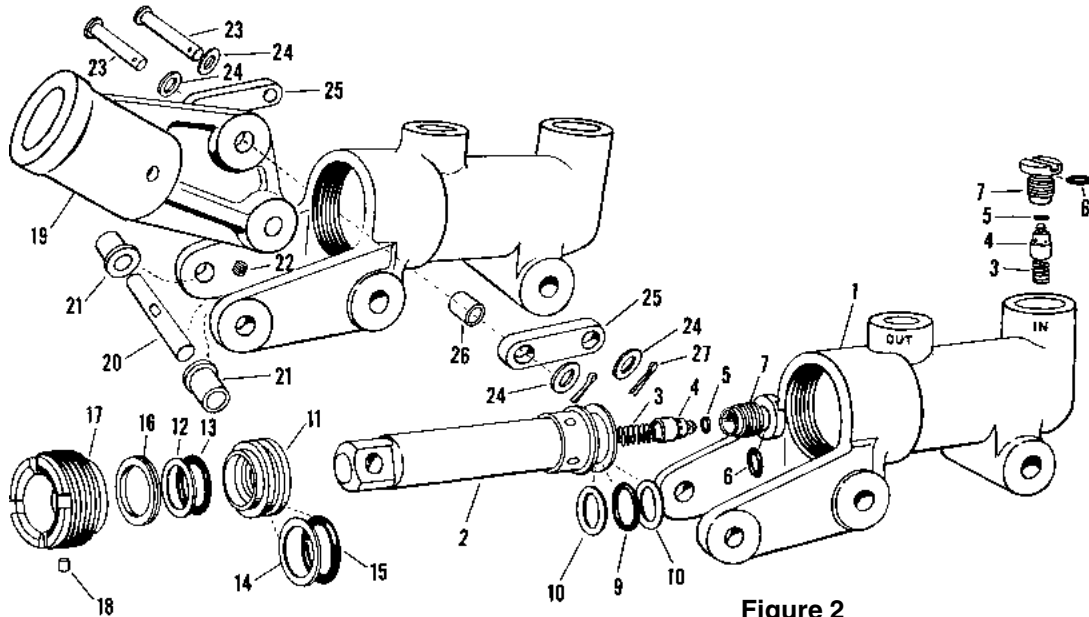

Figure 2
screwdriver (Fig. 2 and 3), unscrew valve seat (7) from inlet port. Poppet (4) and spring (3) may then be removed.